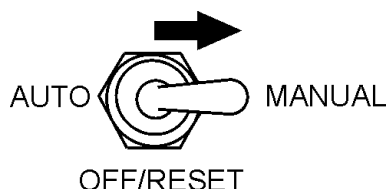

Figure 42. Auto-Off/Reset Switch (Manual)
6. Place the Auto-Off/Reset-Manual switch in the **MANUAL** position to start the engine (Figure 42).